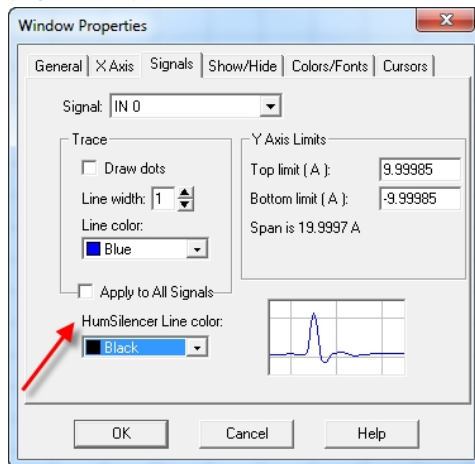

Figure 4-5: HumSilencer line color change options in the View > Windows Properties > Signals tab
- Set the color from the **Scope** window in the **View > Window Properties > Signals** tab (Figure 4-5).